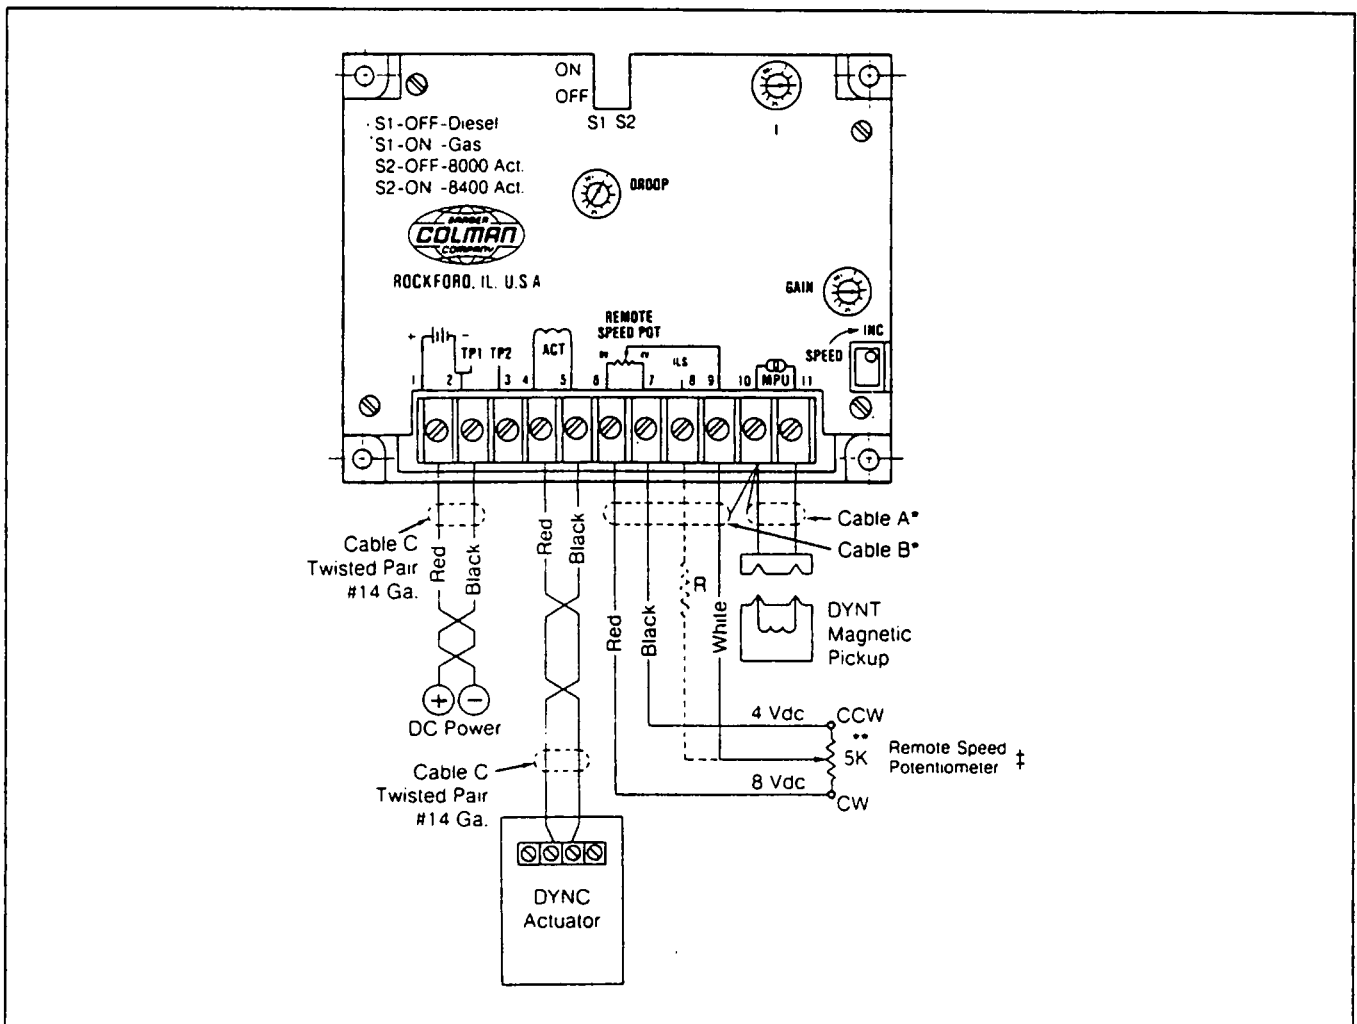

Figure 2. DYNA 8000 Governor System
- a. For isochronous operation, set DROOP counterclockwise to its minimum position as shown in Figure 2.
An optional remote speed selector is available for adjusting engine speed from up to 300 feet (90 meters) from the unit. See terminals 6, 7 and 9 in Figure 2.